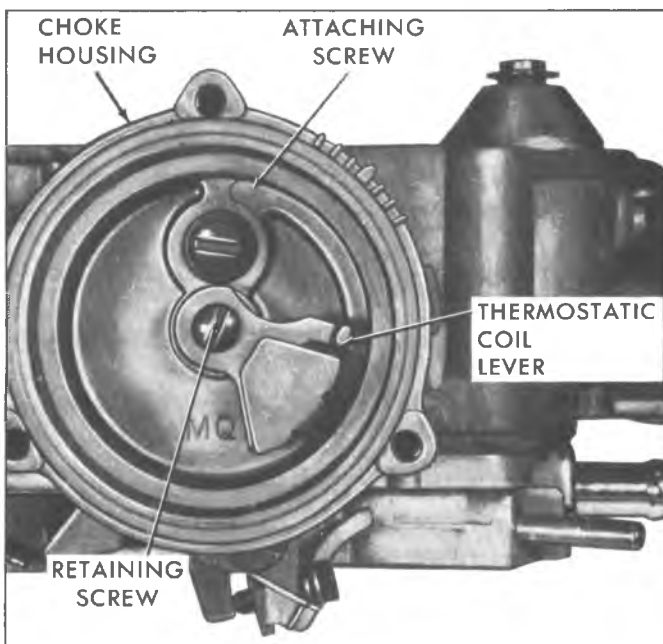

Fig. 15MQ—Removing Choke Housing
- Remove choke housing assembly from float bowl by removing retaining screw and washer inside the choke housing (Fig. 15MQ). The complete choke assembly can be removed from the float bowl by sliding outward.
- To disassemble intermediate choke shaft from choke housing, remove coil lever retaining screw at end of shaft inside the choke housing (Fig. 15MQ). Then remove thermostatic coil lever from flats on intermediate choke shaft. Remove intermediate choke shaft from the choke housing by sliding